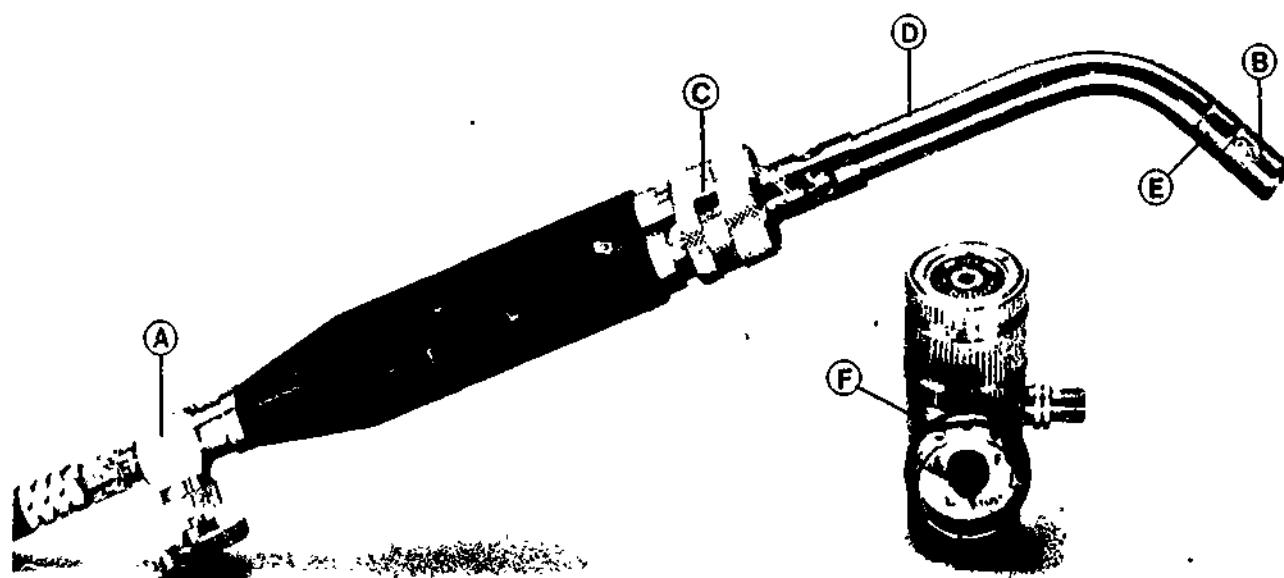

Figure 3-2. Components of the TurboTorch
d) Metered pressured gas is mixed with the combustion air, which is drawn by the venturi through the air-intake holes at the base of the tip. The gas mixture, after passing through the venturi and the mixing chamber, is then swirled into the flametube by a stationary helical-blade rotor similar to the blades in a gas turbine. Combustion takes place inside the flametube (Figure 3-2). The expansion of the gases in combustion creates a high-velocity swirl flame with very rapid heat transfer to the target.